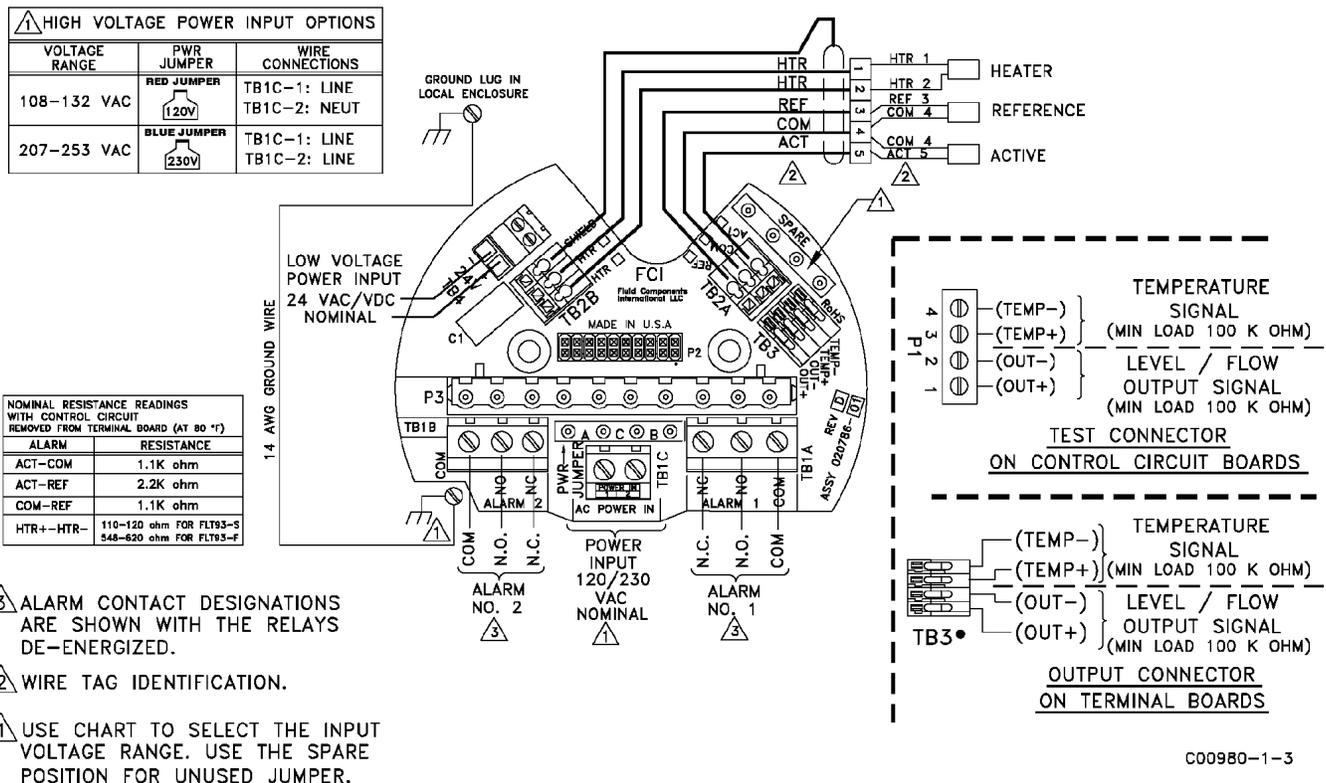

Figure 10 – Remote Wiring Diagram
5. When connecting the relay wiring, do so with complete understanding of what the process requires of the instrument. The instrument has dual SPDT or single DPDT relay output contacts dependent on the jumper configuration for each alarm switch point. For the relay terminals and logic, refer to Figure 10. Also refer to Table 3-5 and Table 3-6 in Section 3 - Operation. Relay contacts are shown with the relays de-energized. Wire in accordance with the system requirements.